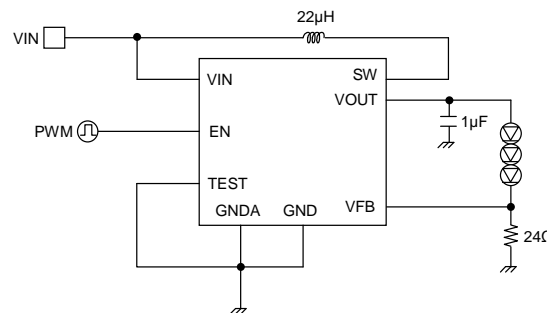

Figure 17. The brightness adjustment example of EN terminal by PWM ( $f_{\text{PWM}} = 100\text{Hz} \sim 300\text{Hz}$ )
1) PWM brightness adjustment is made by giving PWM signal to EN as shown in Figure 17.